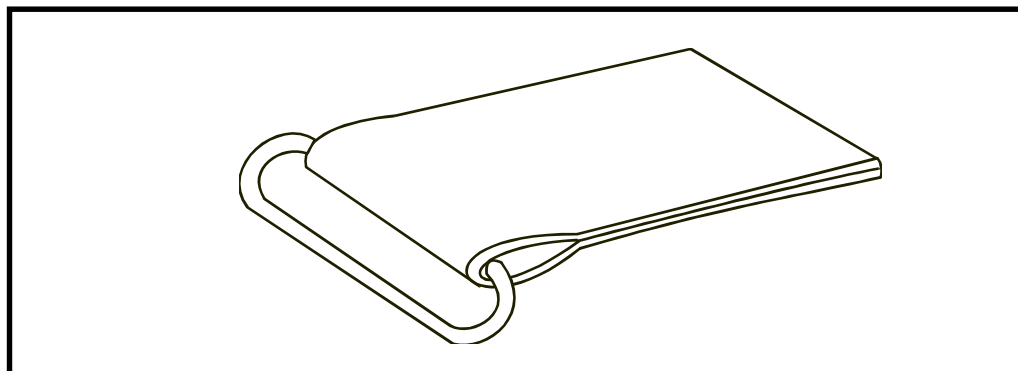

Figure 13-2. Type 1 fold
(1) Type 1 Fold. Type 1 fold (Figure 13-2) is made with a piece of webbing that is twice as long as the planned chape. To make a type 1 webbing fold--